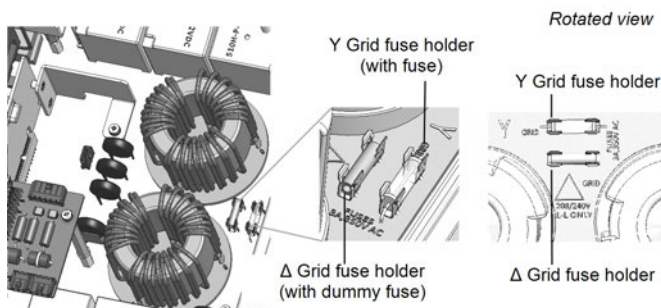

Figure 21: Fuse locations and markings
To set the inverter for 3-wire grid connection, you must move the fuse from the 4-wire fuse holder, marked as Y GRID, to the 3-wire fuse holder, marked as Δ GRID (see *Figure 21*).
2. Identify the fuse locations and the markings as described in *Figure 21*.